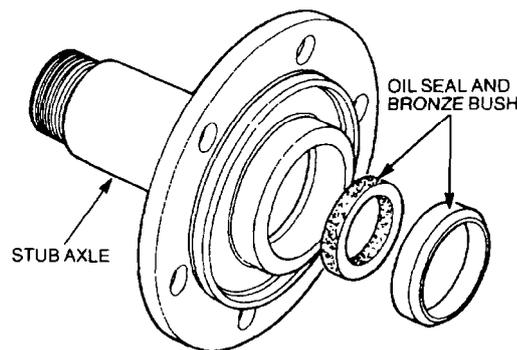

Figure 258 Removing the Stub Axle Oil Seal
- b. Using the slide hammer and the adaptor (Table 3, Serial 42 and 68), remove the oil seal and bronze bush from the stub axle (Figure 258).